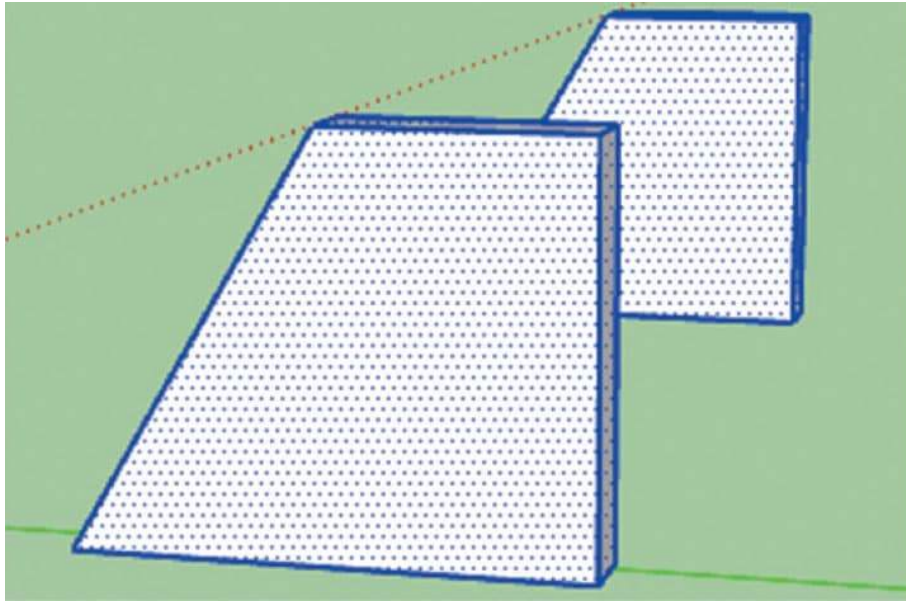

FIG. 3: *Extrude the wing bracket to the desired thickness.*
3. Extrude out the bracket and make a copy of it. Move them so they are about 50 mm apart, but not more apart than the width of the car (fig. 3).